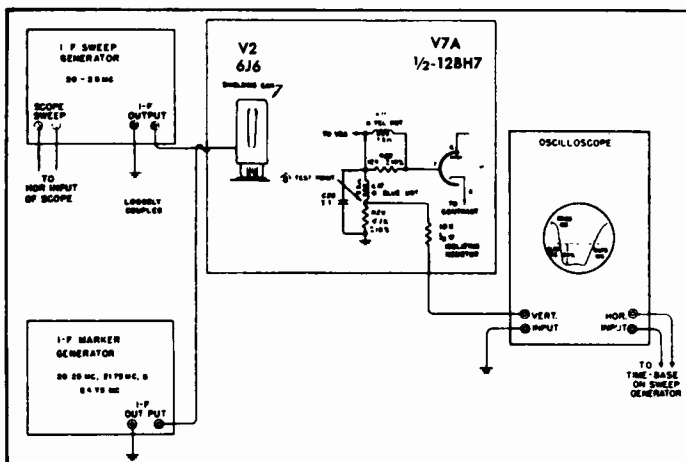

FIG. 3. I-F ALIGNMENT BLOCK DIAGRAM
4. Connect TV I-F Signal Generator through a 1500 MMF condenser to Test Point (A) of tuner unit; low side to ground. (See schematic diagram.)
5. Connect negative lead of V.T.V.M. (or meter of 20,000 ohms-per-volt, or better) to 4.7K diode load resistor TEST POINT (B); positive lead to ground. (See schematic diagram.)
11. Remove Signal Generator. Feed a video I-F Sweep Generator (20 to 28MC) through loosely coupled shield of 6J8 converter tube, making sure shield is not grounded. (Refer to Fig. 3.)